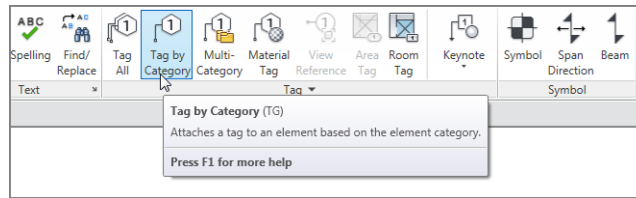

FIGURE 11.61: Click Tag By Category on the Annotate tab.
3. On the Tag panel of the Annotate tab, click the Tag By Category button, as shown in Figure 11.61.